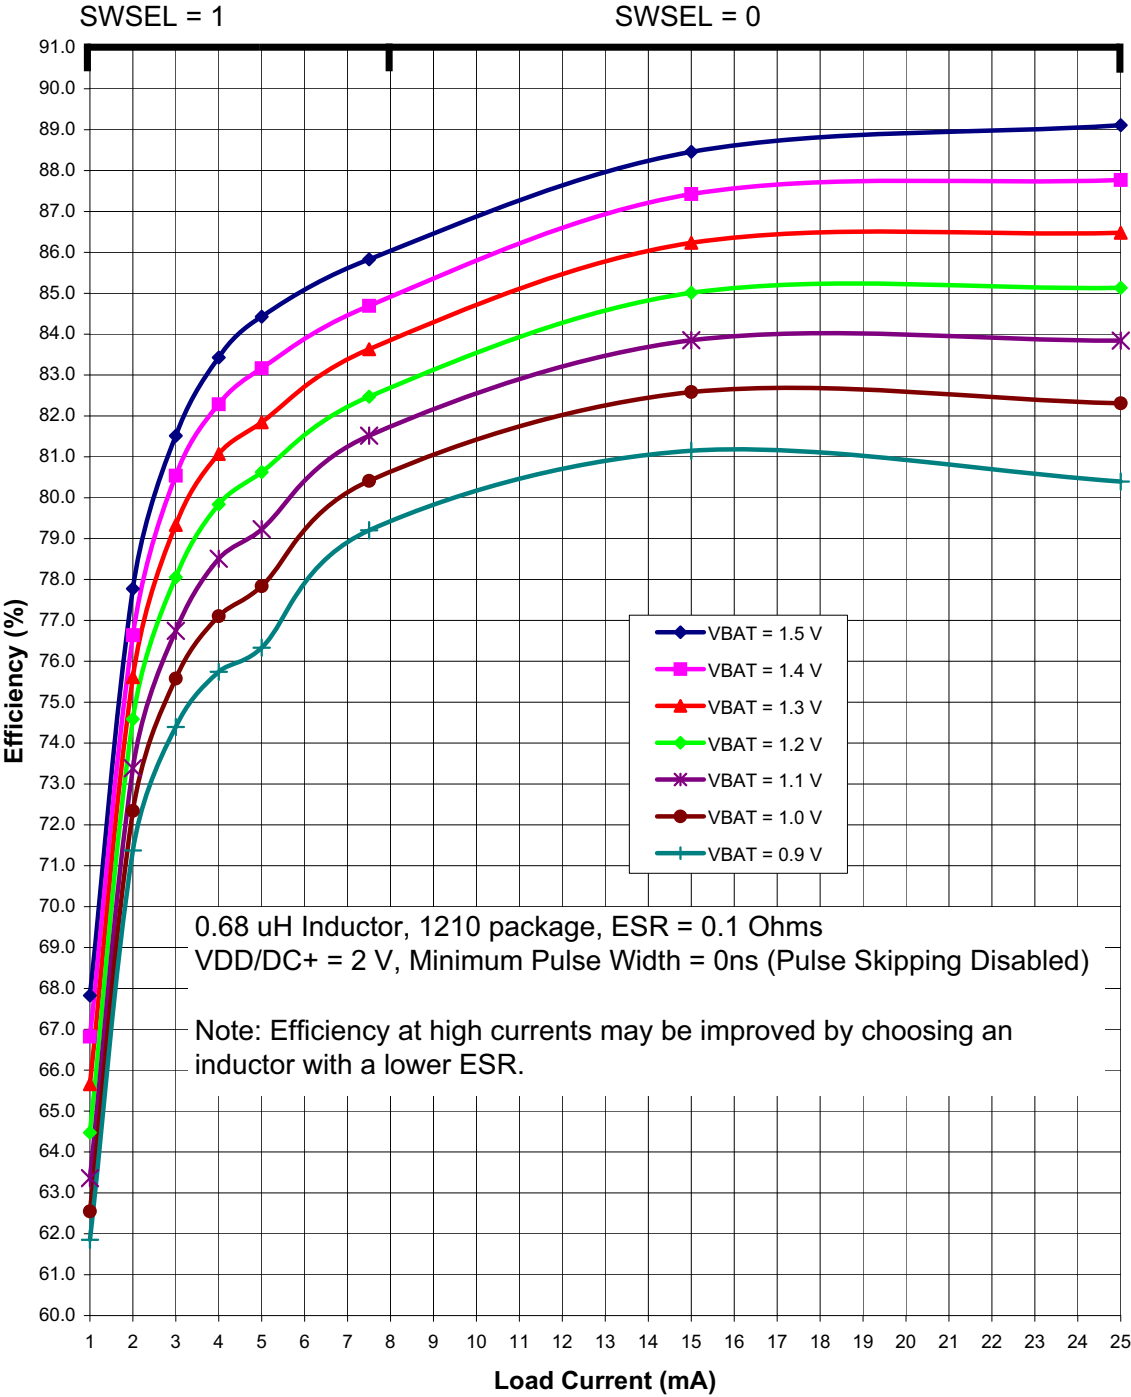
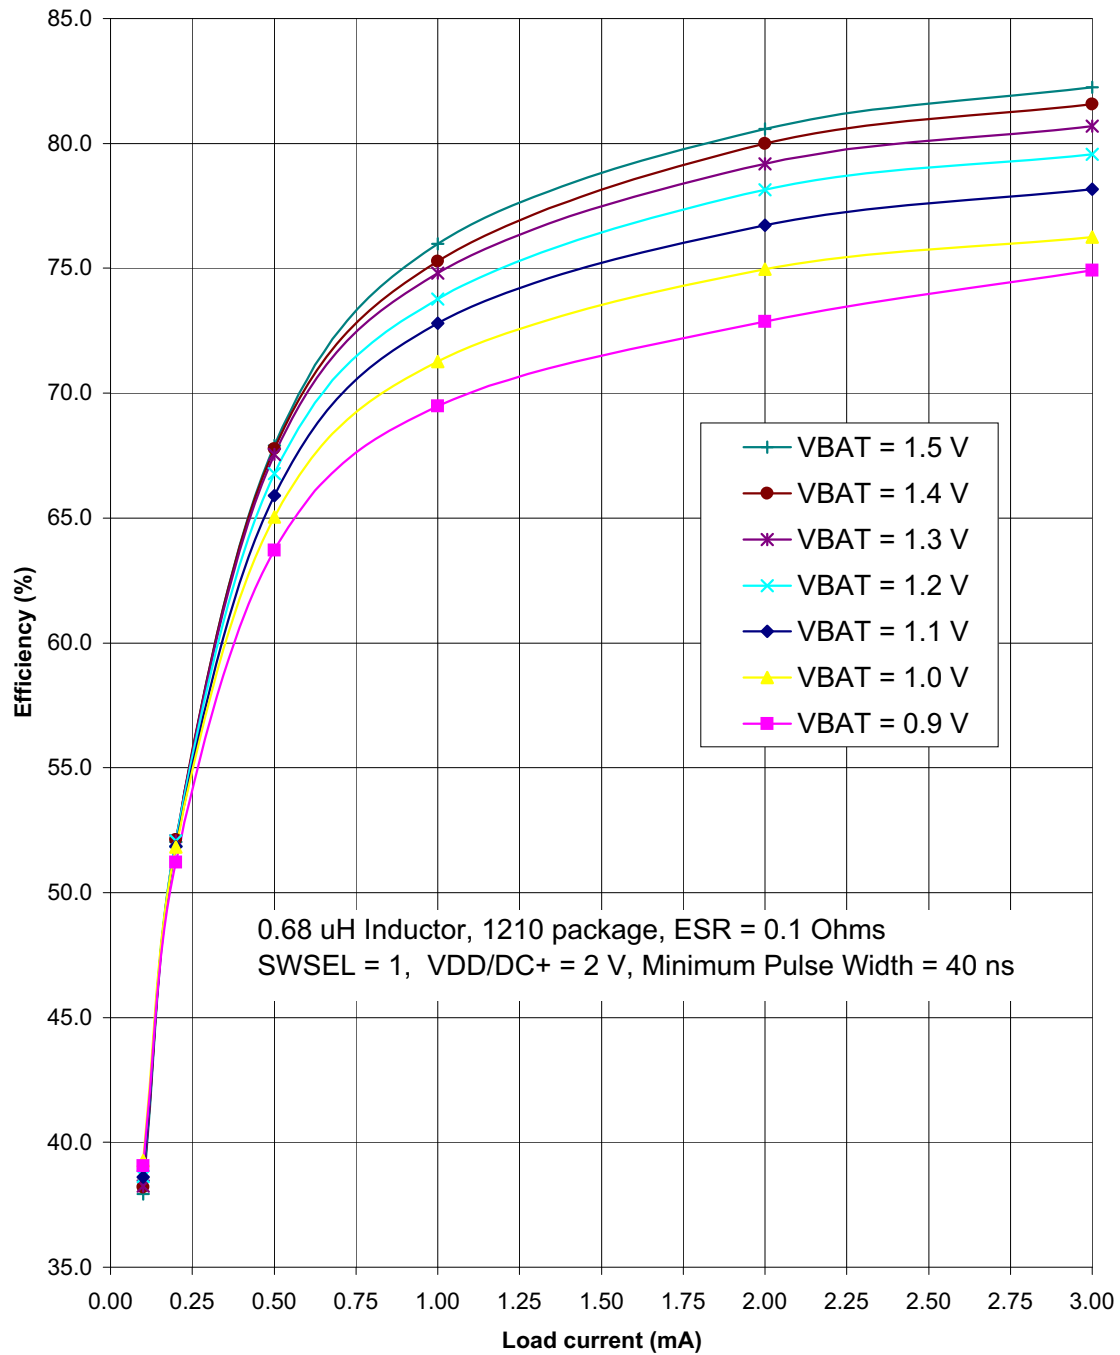

Figure 4.3. Typical DC-DC Converter Efficiency (High Current, VDD/DC+ = 2 V
Figure 4.5. Typical DC-DC Converter Efficiency (Low Current, VDD/DC+ = 2 V)
<ol style="list-style-type: none"> <li>Based on device characterization data; Not production tested.</li> <li>SYSCLK must be at least 32 kHz to enable debugging.</li> <li>Digital Supply Current depends upon the particular code being executed. The values in this table are obtained with the CPU executing an “sjmp \$” loop, which is the compiled form of a while(1) loop in C. One iteration requires 3 CPU clock cycles, and the flash memory is read on each cycle. The supply current will vary slightly based on the physical location of the sjmp instruction and the number of flash address lines that toggle as a result. In the worst case, current can increase by up to 30% if the sjmp loop straddles a 128-byte flash address boundary (e.g., 0x007F to 0x0080). Real-world code with larger loops and longer linear sequences will have few transitions across the 128-byte address boundaries.</li> <li>Includes oscillator and regulator supply current.</li> <li>IDD can be estimated for frequencies <math>\leq 10</math> MHz by simply multiplying the frequency of interest by the frequency sensitivity number for that range, then adding an offset of 90 <math>\mu</math>A. When using these numbers to estimate <math>I_{DD}</math> for <math>&gt;10</math> MHz, the estimate should be the current at 25 MHz minus the difference in current indicated by the frequency sensitivity number. For example: <math>V_{DD} = 3.0</math> V; <math>F = 20</math> MHz, <math>I_{DD} = 4.1</math> mA – <math>(25 \text{ MHz} - 20 \text{ MHz}) \times 0.120 \text{ mA/MHz} = 3.5</math> mA.</li> <li>The Supply Voltage is the voltage at the VDD_MCU pin, typically 1.8 to 3.6 V (default = 1.9 V). Idle IDD can be estimated by taking the current at 25 MHz minus the difference in current indicated by the frequency sensitivity number. For example: <math>V_{DD} = 3.0</math> V; <math>F = 5</math> MHz, Idle <math>I_{DD} = 2.5</math> mA – <math>(25 \text{ MHz} - 5 \text{ MHz}) \times 0.095 \text{ mA/MHz} = 0.6</math> mA.</li> <li>The supply current specifications in Table 4.2 are for two cell mode. The VBAT current in one-cell mode can be estimated using the following equation:  <math display="block">\text{VBAT Current (one-cell mode)} = \frac{\text{Supply Voltage} \times \text{Supply Current (two-cell mode)}}{\text{DC-DC Converter Efficiency} \times \text{VBAT Voltage}}</math> <p>The VBAT Voltage is the voltage at the VBAT pin, typically 0.9 to 1.8 V.                      The Supply Current (two-cell mode) is the data sheet specification for supply current.                      The Supply Voltage is the voltage at the VDD/DC+ pin, typically 1.8 to 3.3 V (default = 1.9 V).                      The DC-DC Converter Efficiency can be estimated using Figure 4.3–Figure 4.5.</p> </li> <li>The radio peripheral is placed in Shutdown mode.</li> </ol>